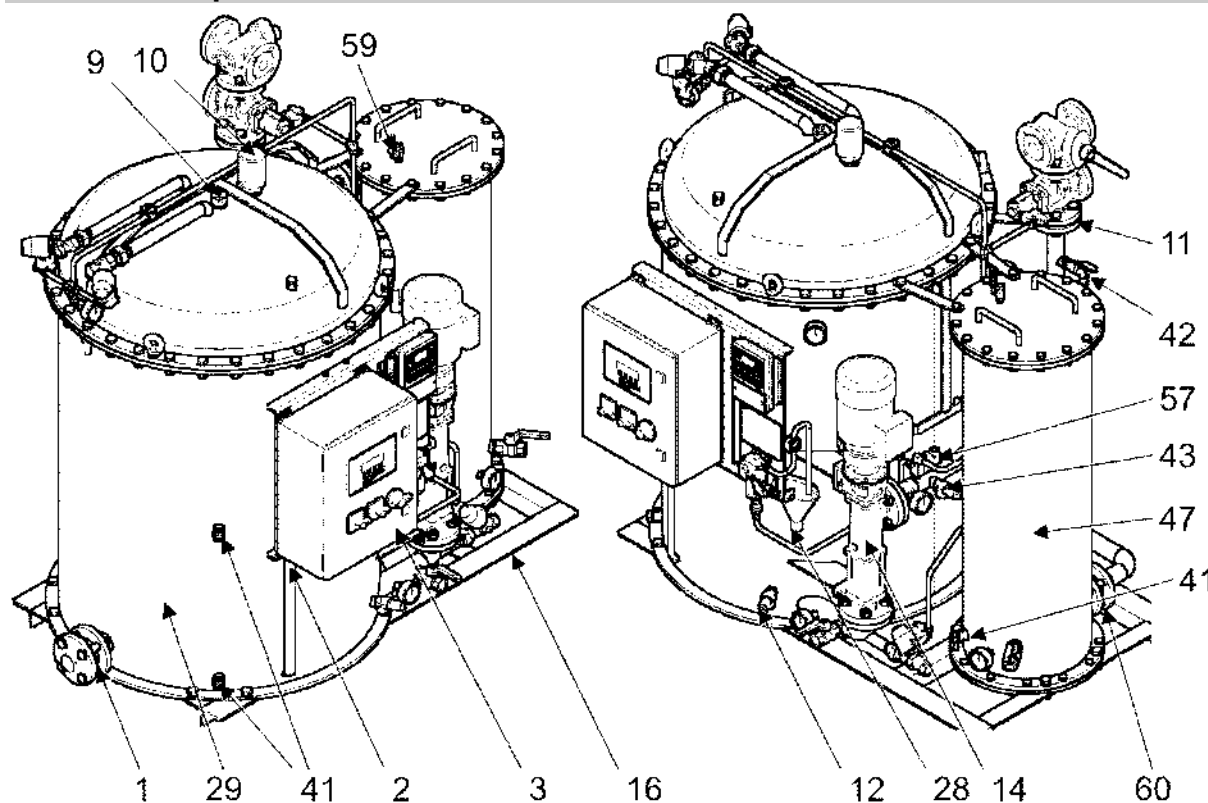

Fig. 1 Component overview
The entire oil separator system (as of type OWS-COM 0,25) is screwed to a base (→Fig. 1/16) which has to be welded in the engine room of the ship.
The second stage is equipped with adsorber cartridges. The pump (→Fig. 1/14) (as of type OWS-COM 0,25) is attached to the container, connected by tubes and cables.
The automatic control box (fig. 1 pos. 3→3.1) is connected to the system/unit and wired to the sensor electrode, the electric heater, the pump and the oil monitor OMD.
The plant (as of type OWS-COM 0,25) is equipped with an electric heater (→Fig. 1/10) in the upper part of the oil separator which keeps the separated oil in a liquid state. A thermo element limits the temperature; by defaults it is set to 45°C. It is controlled by a contactor in the automatic system control box (→Fig. 1/3). The heater can also be switched off manually using a switch (→Fig. 12/2S1).